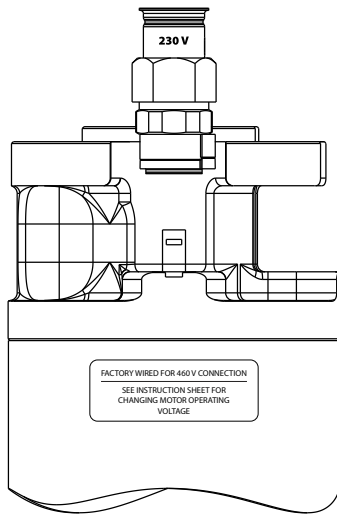

Fig. 5
- Insert the matching seal plug as shown in Fig. 5. Seals, plugs and the motor end bell are keyed to insure that all parts are correctly oriented. Parts should be firmly seated by hand prior to tightening the seal jam nut.